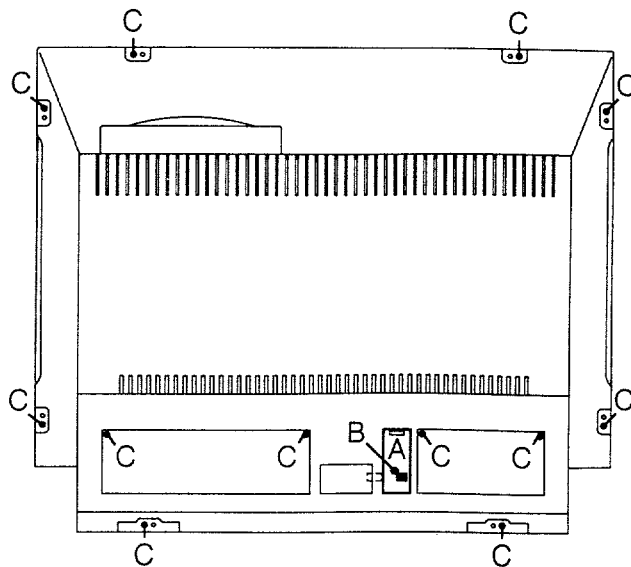

Fig. 4.1
1. Removing the back plate (Fig. 4.1)